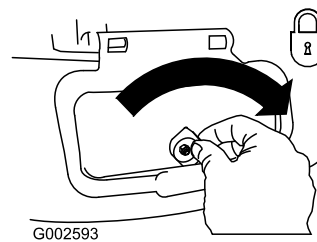

Figure 30
**Important:** Lock the side discharge door after you close it (Figure 30).